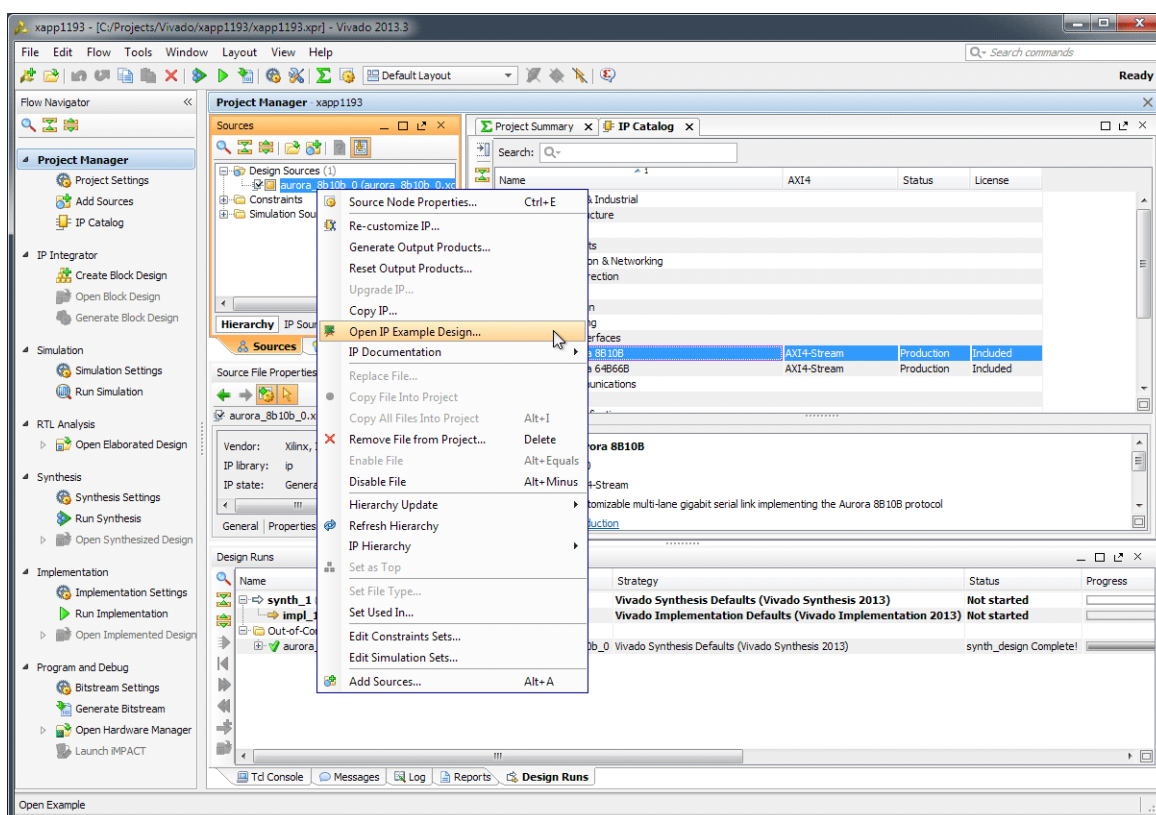

Figure 12: Open IP Example Design
1. When product generation is complete, in the Project Manager section of the Vivado IDE, right-click the core name and select **Open IP Example Design** (Figure 12).